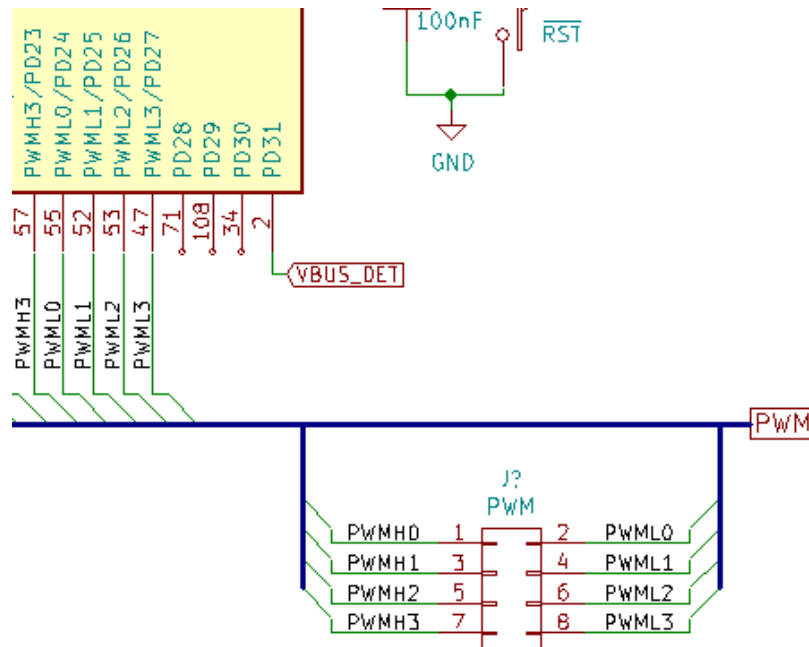

Figure 6 – Bus Labeling, Entry, and Exit
- 18) Busses should be labeled with a Global Label. All bus net names should be labeled at both entrance and exit to/from a bus. All bus entrances/exits should “step” down 50 mil. **Figure 6.**